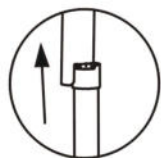
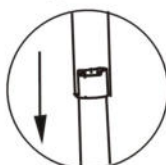

Figure a-1
Figure a-2
3) When you want to put the treadmill to the work position, please lift the end of main frame (end cap) a little to make the foldaway support tube higher than the cylinder cover (see figure a-1), tip the foldaway support tube with your foot slightly (see figure a-2), press the end of main frame (end cap) forcibly, remove your foot and keep on pressing the end of main frame for a while. The cylinder will shrink under the weight of itself (see figure b) and the main frame goes flat.